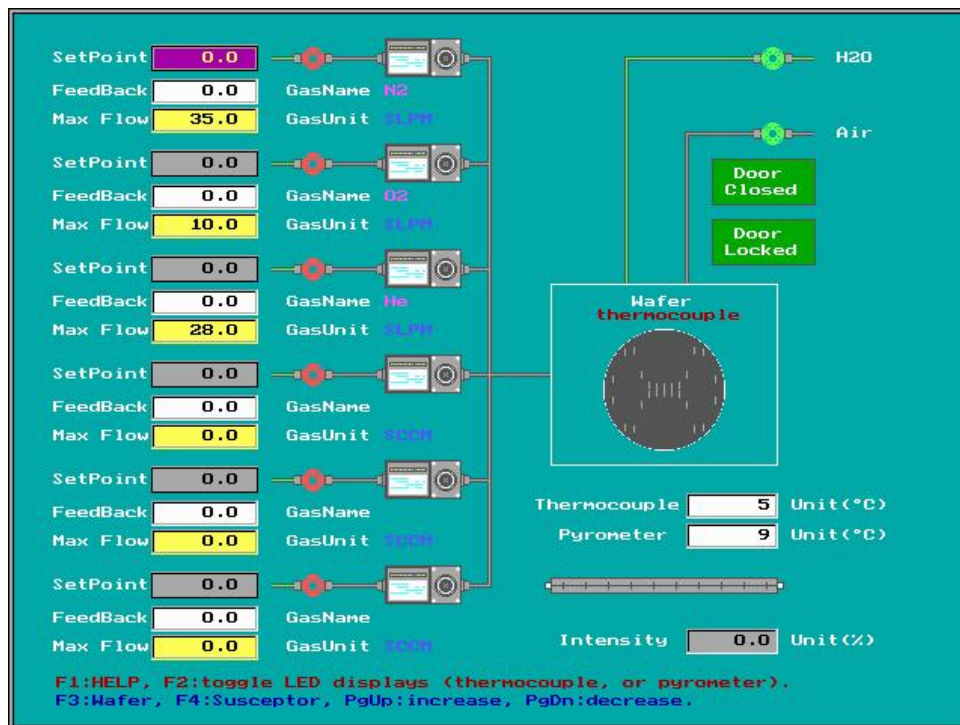

Figure 3-13. System Diagnostics Screen
2. The *System Diagnostics Screen* will appear (see Figure 3-13).
The **System Diagnostics** screen (see **Figure 3-13**), is used to verify the proper operation of each device in the RTP-600S, independently of the other devices. Each gas flow and the lamp power can be manually set to any desired value within the limits of the device.